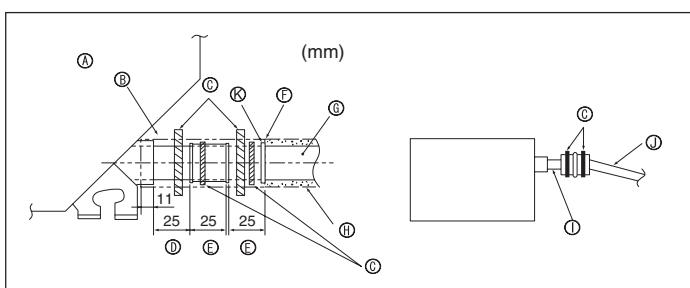

Fig. 5-2
⑧ O.D. ø32 PVC TUBE	⑩ Downward slope (1/100 or more)
⑨ Make it as large as possible	⑪ O.D. ø38 PVC TUBE for grouped piping (9 mm or more insulation)
⑫ Indoor unit	⑫ Up to 85 cm
⑬ Make the piping size large for grouped piping.
1. Connect the drain socket (supplied with the unit) to the drain port. (Fig. 5-2) (Fix the tube using PVC adhesive then secure it with a band.)